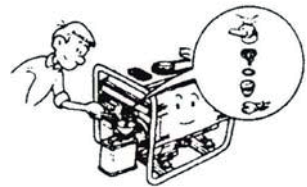

Fig. 46
9.2.1 Loosen the drain bolt on carburetor and drain fuel inside it(Figure 46)